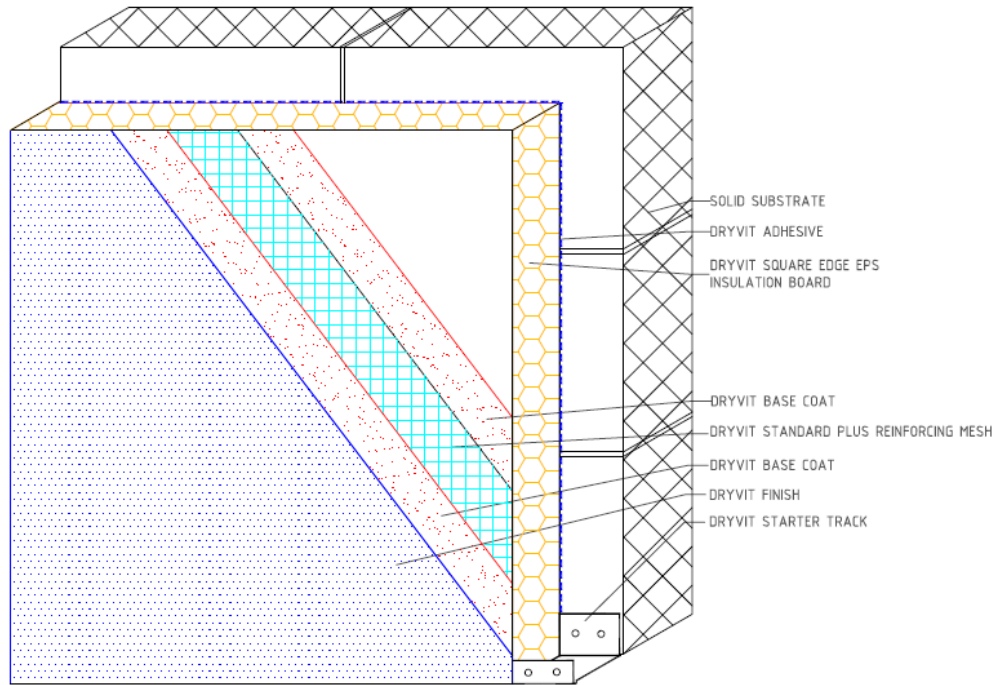

Figure 3a: Outsulation® Plus primary cementitious adhesive fix
- h. Apply a further 0.5 to 1.5 mm layer of base coat over the first coat to fully cover the reinforcing mesh (see Figure 3a). The result should be such that the reinforcing mesh is approximately centred within the base coat thickness. Do not allow the first pass to completely dry prior to the application of the second pass otherwise an excessive amount of base coat mixture will be necessary to fully coat the surface.